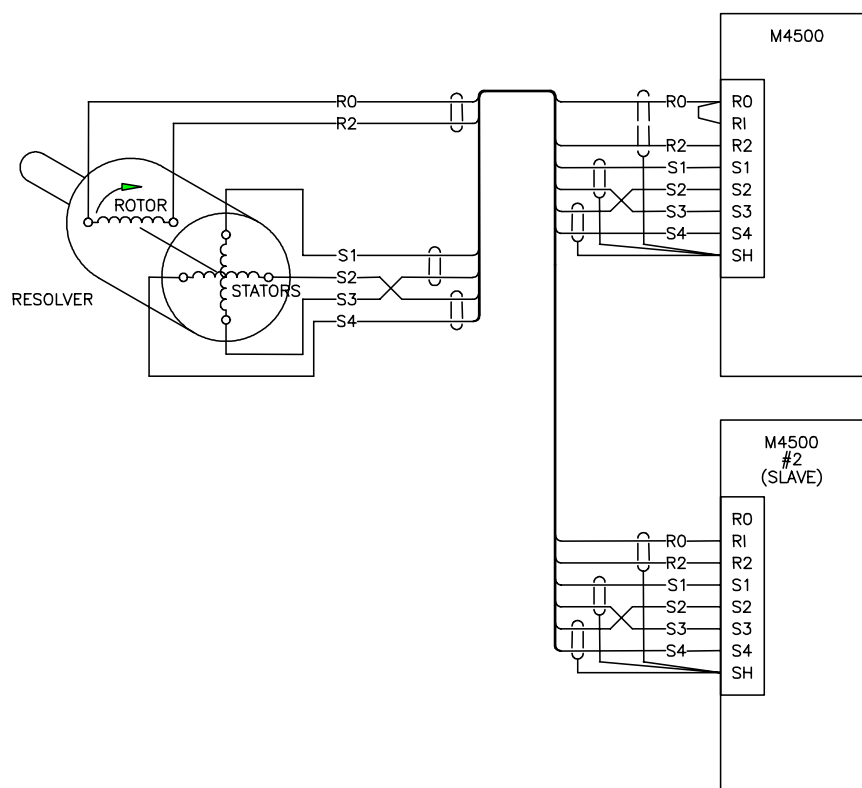

Figure 8.11 - Two M4500 Slaved To One Resolver
Figure 8.11 shows two M4500 modules wired to one resolver with module #2 slaved to module #1 (reference for resolver supplied by module #1). In this case the reference output (RO) of module #1 is connected to the resolver and tied to the reference inputs (RI) of both modules while the reference output of module #2 is not used. Up to 8 modules can be slaved off one resolver this way. In all cases, a shielded twisted pair cable should be used to wire the resolver to the M4500, making sure the cable is routed free of other high voltage wiring.